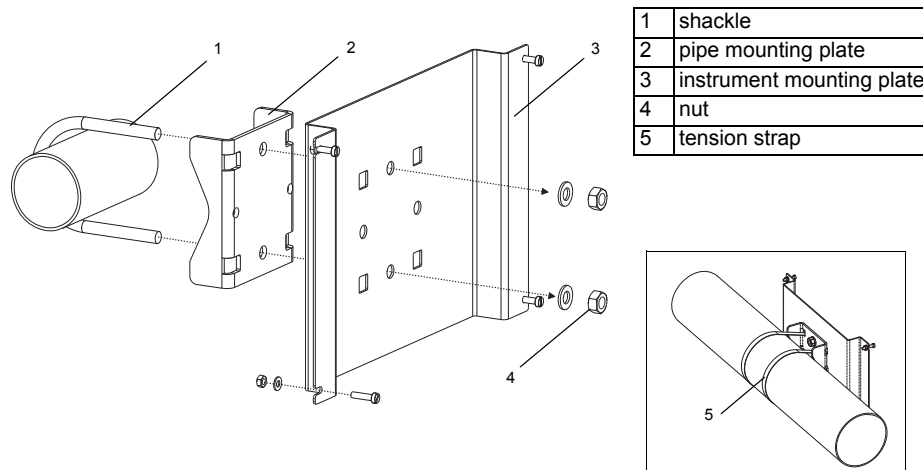

Fig. 5.3: Pipe installation set
- Fix the pipe mounting plate (2) to the pipe (see Fig. 5.3).
- Fix the instrument mounting plate (3) to the pipe mounting plate (2) with the nuts (4).
- Fix the bottom side of the housing to the instrument mounting plate (3).
The mounting kit is fixed to the pipe with tension straps (5) instead of the shackle (see Fig. 5.3.).
- Push the tension straps (5) through the holes in the instrument mounting plate (3).